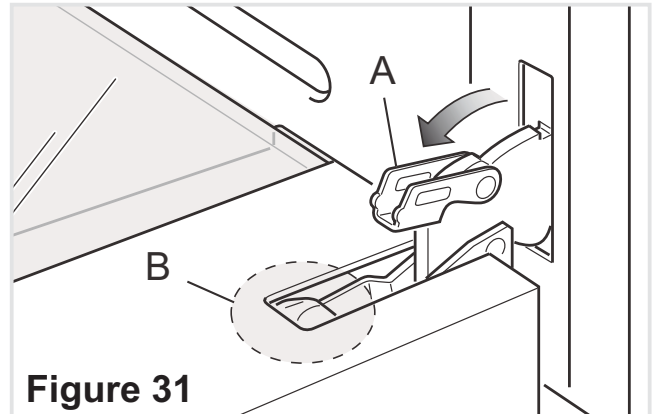

Figure 31
- Open the lever “A” completely on the left and right hinges (fig. 31).
- Gently close the door until left and right hinge levers “A” are hooked to part “B” of the door (figs. 31, 32).